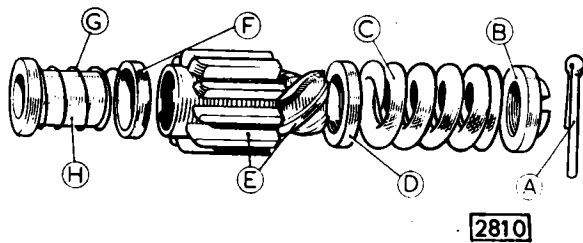

Fig. 66 Exploded view of the starter drive assembly
Remove the split pin (A), (Fig. 66), from the shaft nut (B) at the end of the starter drive. Hold the squared starter shaft extension at the commutator end by means of a spanner and unscrew shaft nut (B). Lift off the main spring (C), washer (D), screwed sleeve with pinion (E), collar (F), pinion restraining spring (G) and restraining spring sleeve (H).